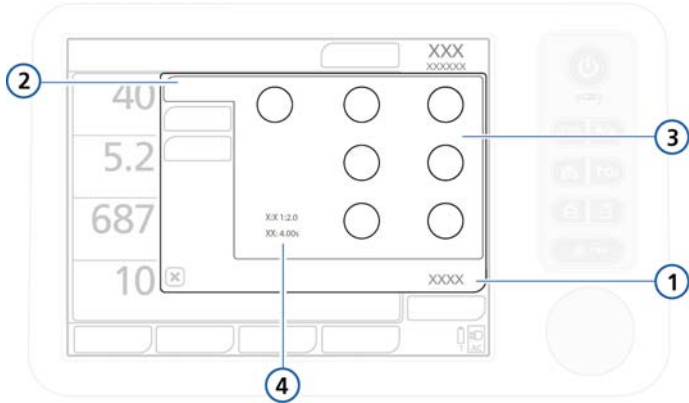

Figure 4-5. Basic settings, Controls window
- In addition to control settings, the Basic window displays breath timing parameters determined from timing control settings; see Figure 4-5.
1. Open the **Controls** -> **Basic** window (Figure 4-5).